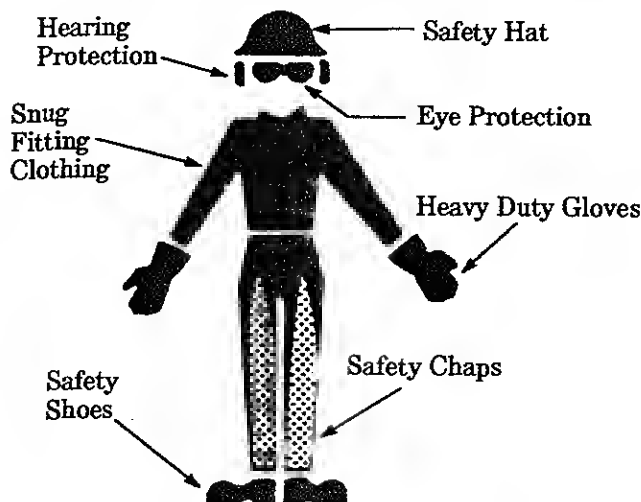

Figure 4
1. Wear protective gear. Figure 4. Always use steel-toed safety footwear with non-slip soles; snug-fitting clothing; heavy-duty, non-slip gloves; eye protection such as non-fogging, vented goggles or face screen; an approved safety hard hat; and sound barriers—ear plugs or mufflers to protect your hearing. Regular users should have hearing checked regularly as chain saw noise can damage hearing.